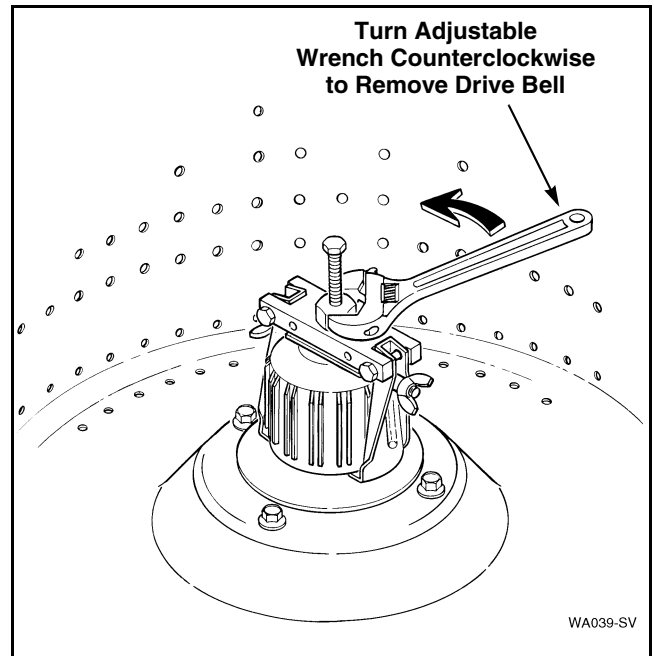

Figure 15
- i. Using an adjustable wrench, turn large nut on tool **COUNTERCLOCKWISE** to pull drive bell from transmission output shaft. Refer to *Figure 15*.